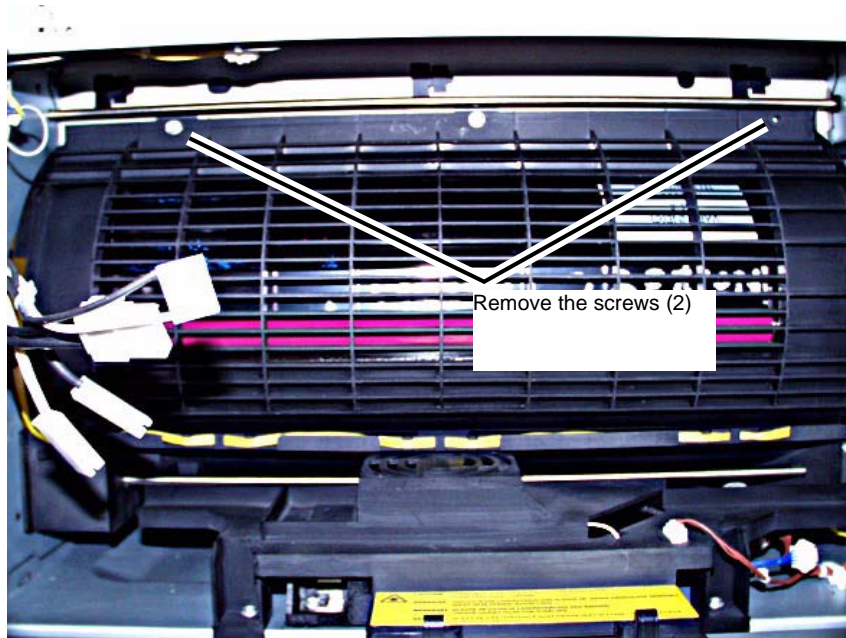

Figure 1 Preparing to remove the Rotary Cover
6. Prepare to remove the Rotary Cover. (Figure 1)